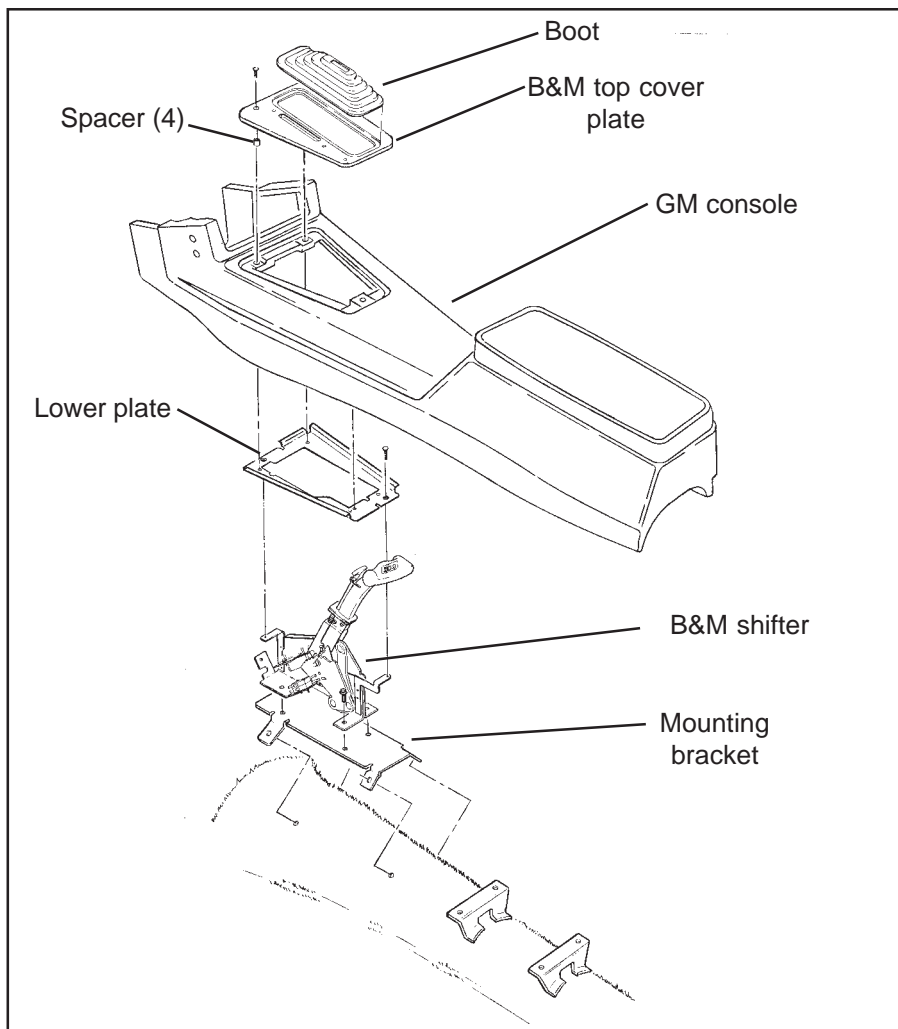

Figure 1
STEP 1. Remove the console from the car (**See Figure 1**). Remove the two screws inside the storage box, two under the storage box and two in the dash board. Remove the four screws on the shifter cover plate.
Install the **B&M** mounting bracket and shifter assembly to the floor using the four stock screws (**See Figure 1**).
STEP 14. Install the lower plate onto the top of the shifter with two 10-32 x 1/2" flat head screws (See Figure 1). Feed the cover plate and the indicator cable through the hole in the lower plate.